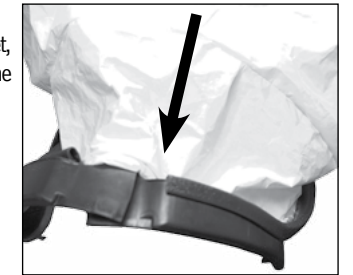

Figure 7
- Begin attaching shroud to shroud retainer by pressing attachment strip onto retainer, starting at the raised section of the retainer, approximately 2 inches from the center of the helmet (Figure 7).